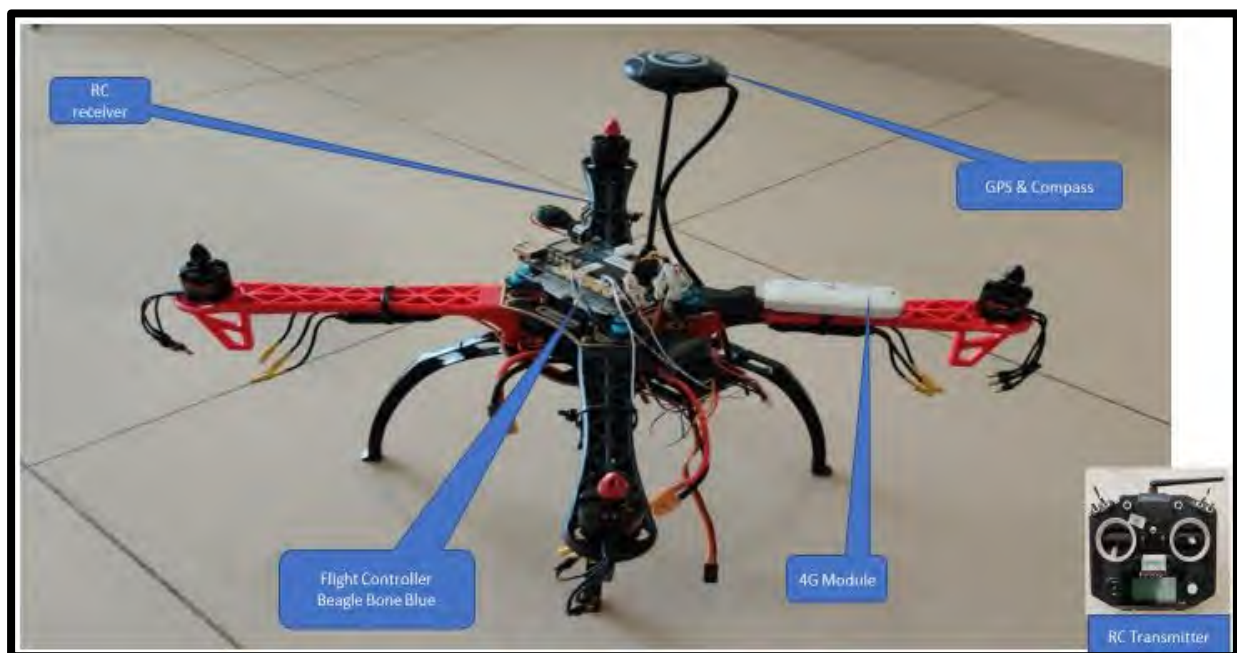

Figure 1.4: Light weight Quadcopter X-Type
The X-Type Quadcopter was made to validate the configuration of a small drone with Beagle Bone Blue acting as both the Flight Controller Unit (FCU) and companion computer as it has Linux operating system on which Ardupilot autopilot application runs. It was tested with GPS, compass and Radio Controller (RC) receiver on board. The link between the drone and ground station called MAVlink was established over 4G LTE Communication module. Refer figure 1.4